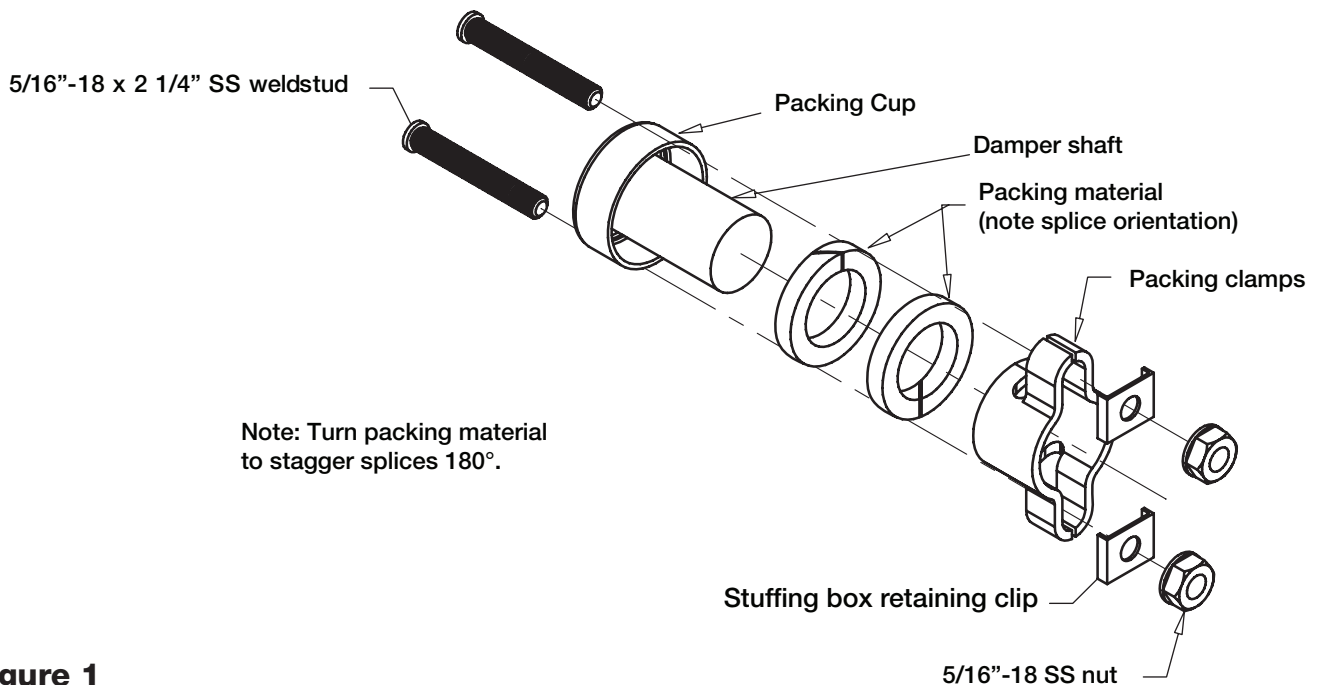

Figure 1
- 1) Replaceable packing material may deteriorate due to wear, oxidation or exposure to adverse chemicals. Replace as necessary. Greenheck provides a unique sealing construction with a two- piece packing clamp that splits to allow easy access to the packing material. See Figure 1